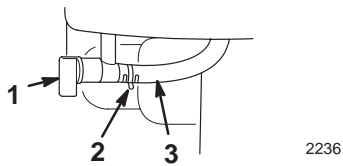

Figure 15
- Fuel Shutoff Valve** (Fig. 15)—Close the valve by rotating it clockwise. Open the valve by rotating it counterclockwise. Close the valve when you do not use the snowthrower.
4. Open the fuel shutoff valve below the fuel tank (Fig. 15).
6. Close the fuel shutoff valve (Fig. 15).